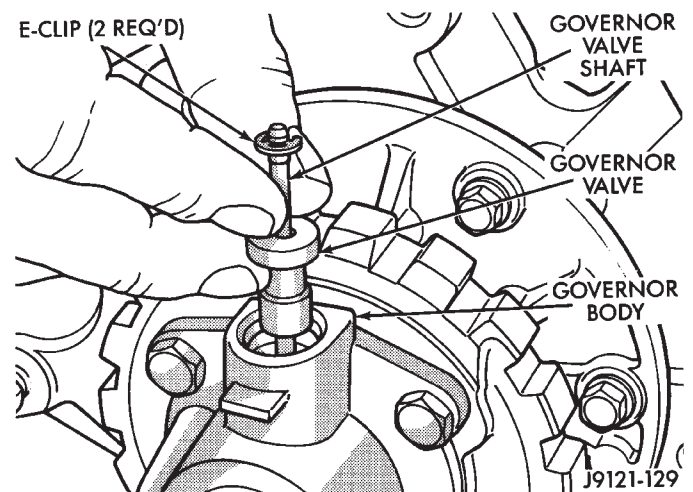

Fig. 138 Installing Governor Valve And Shaft
(6) Install first E-clip on governor valve shaft. Then install governor valve and shaft in governor body (Fig. 138). **Be sure valve shaft moves freely**
(7) Install second E-clip on governor valve shaft. Then install governor valve and shaft in governor body (Fig. 138). **Be sure valve shaft moves freely**
(8) Install governor valve and shaft in governor body (Fig. 138). **Be sure valve shaft moves freely**
(9) Tighten bolts attaching governor body to park gear to 11 N·m (95 in. lbs.) torque.
(10) Install first E-clip on governor valve shaft. Then install governor valve and shaft in governor body (Fig. 138). **Be sure valve shaft moves freely**